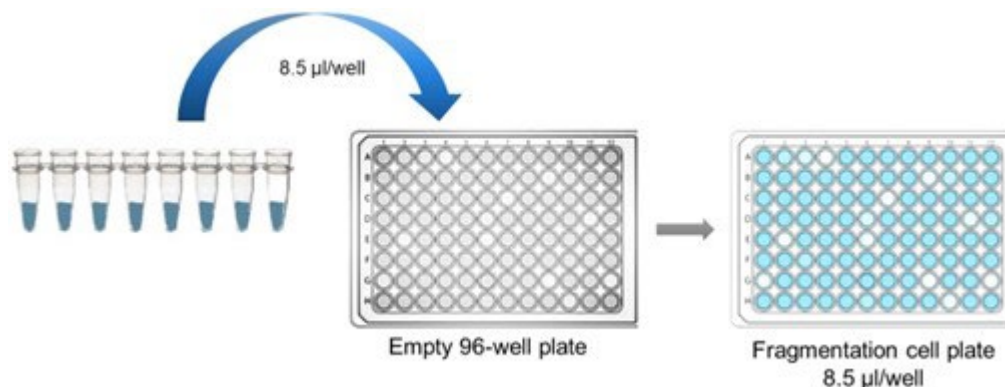

Figure 7. Creating the fragmentation cell plate. The workflow illustrates Steps 2–3.
- Using a multichannel pipette, transfer 8.5 µl of the fragmentation mix into the bottom of each well of a fresh 96-well plate to create the fragmentation cell plate (Figure 7).